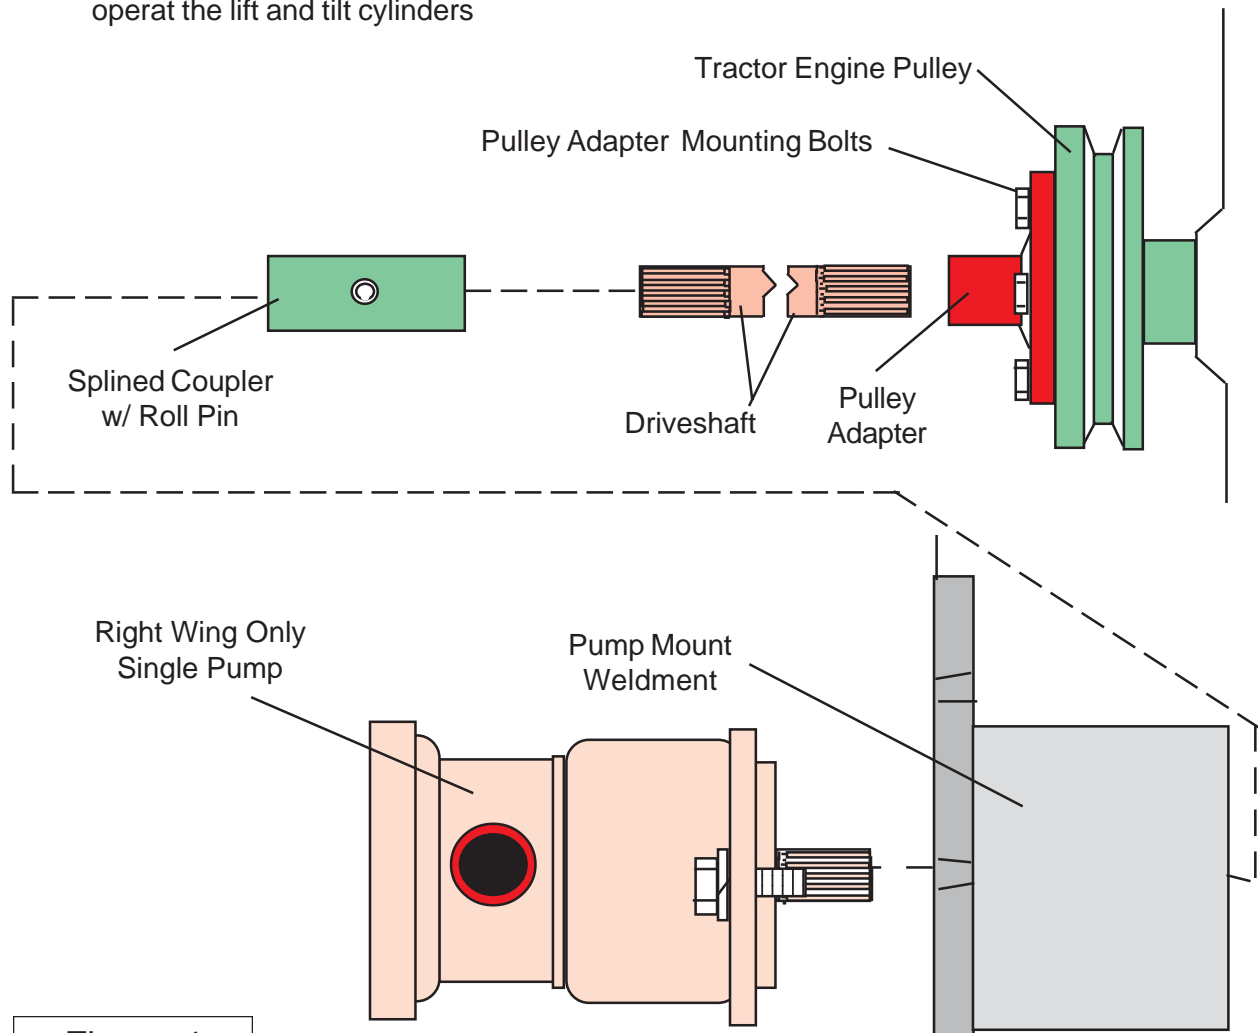
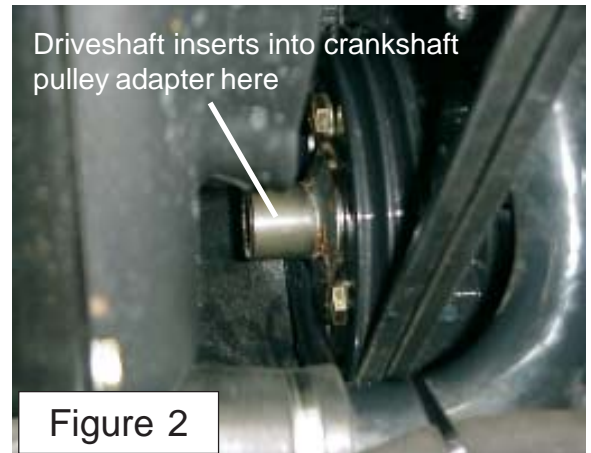
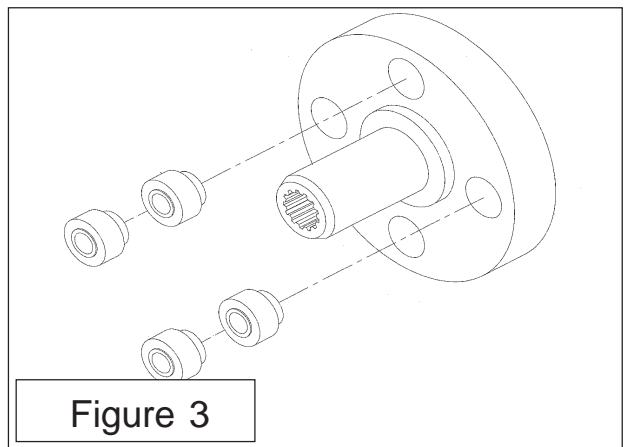

Figure 1
Figure 2
Figure 3
1. Identify and locate the frame rail It will be easier to install the sub-frame before the pump, driveshaft and tank, it will be easier to align the front mounting bolts of the sub-frame. Two Wheel Drive Tractors use different sub-frame than the four wheel drive tractor, The sub-frame must match the tractor as they will not interchange. To determine if you have the correct sub-frame check the measurement shown (See Figure 1 & 2)
4. Install Frame Rail to Tractor. The frame rail (Figure 1 or 2) will be slid under the tractor on the RH side (See Figure 3). Make certain the plastic plugs have been removed from tractor frame, at the front bolster and the center ones at the rear axle.. Do NOT tighten the frame mounting bolts until all the bolts have been installed as frame will need to be moved slightly for alignment as the bolts are installed. The frame can be installed by balancing the frame on a floor jack, if using this method it is recommended two people perform this to prevent the frame from falling. Raise the frame up to the tractor frame (See Figure 3),
5. Raise the frame rail up under the tractor. Raise sub-frame under tractor until the rear mounting plate is under the rear axle and aligned with the bolt holes that did mount the draw bar bracket to the rear axle. Using the jack raise the frame up until it is against the rear axle housing. Install the new bolts, nuts, lockwashers, flatwashers and the axle strap (See Figure 1, 2, 3 & 4).
1. Remove RH Steps & Tool Box. The RH Steps and Tool box (if equipped with) need to be removed as they will not be used as they would interfere with the mower head when in transport position (See Figure 2).
3. The Engine Crankshaft Pulley. The engine crankshaft pulley WILL NOT need to be removed, the pulley mounting bolts WILL NOT need to be loosened or removed (See Figure 2). The Crank Shaft Pulley adapter will mount over the pulley mounting bolts (See Figure 3)
4. Crankshaft Pulley Adapter. The crankshaft pulley adapter (P/N 02974786) uses four 7/16" bolts (P/N 02975781) ,Hex Head 7/16"-NF X 1-3/4" PL GR8 and four 7/16" Lockwashers (P/N 00022200). The pulley adapter comes with four robber coated steel grommets (Replacement P/N 02964620). Make certain these grommets are installed and centered. The Pulley adapter will be slid down into the engine compartment from the side (LH or RH side will work). Install the four bolts and lockwashers that mount the adapter to the engine crankshaft. Make certain that everything is aligned and tighten the for retaining bolts. The steel sleeve inside the rubber grommet will carry the force of tightening the mounting bolts not the rubber part of grommet. Pulley Adapter has a 7/8" X 13 spline sleeve built into the center of it (See Figure 1, 2 3 & 4).
Locate the Magnetic switch mounting bracket, dual wings there will be two of these (See Figure 1). If Dual wings the two brackets will have the switches mounted on the opposite side (See Figure 2). Once these have the switches bolted on lay the brackets aside for now. (See Figure 20)